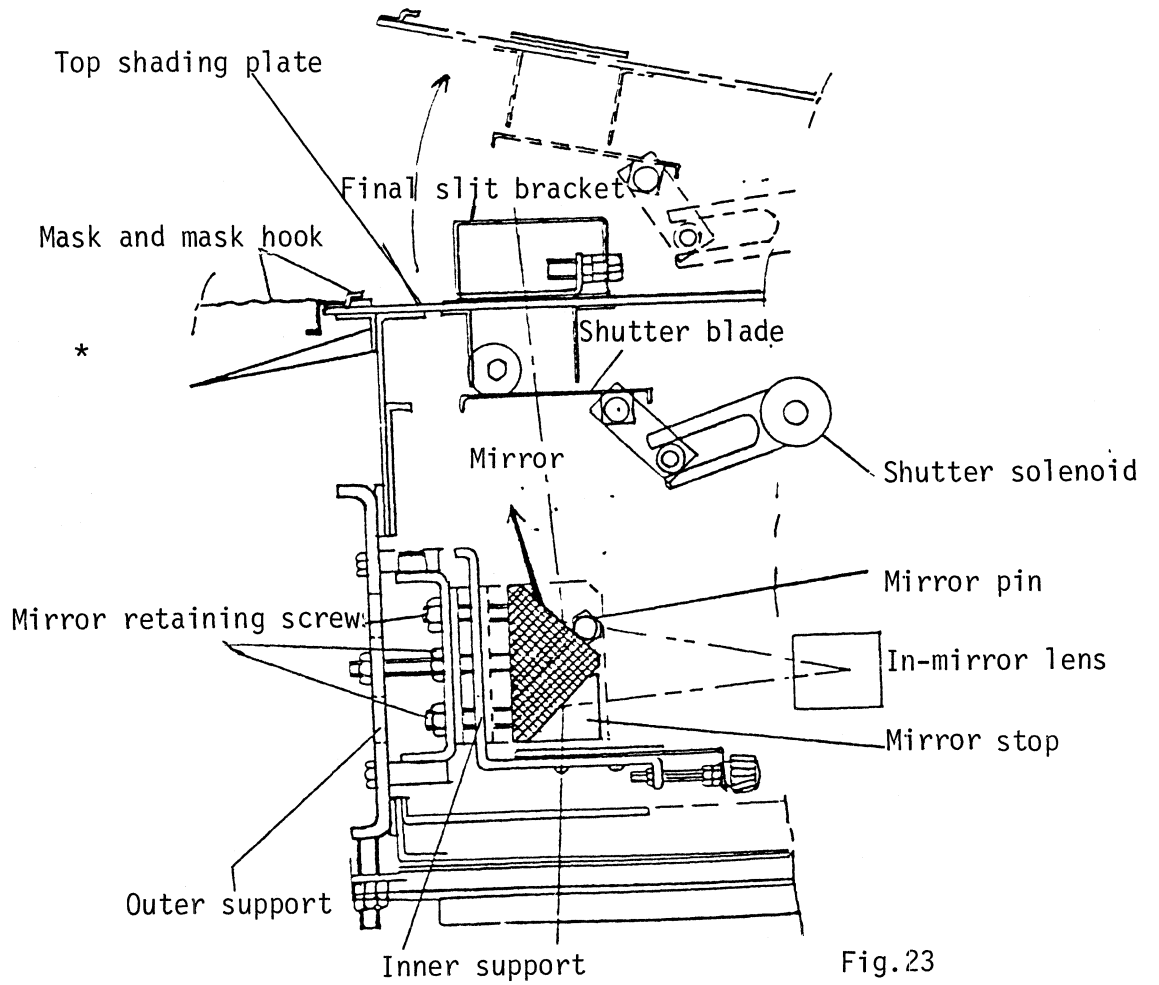

Fig.23
- (1) Open the main control panel cover and remove the shading plate in the front from the lens assembly.
- (2) Remove both the upper and middle rear covers.
- (3) Open the top cover, and hook the compression plate of the exposure section to the top cover.
- (4) Turn on the power (100 V, no-fuse breaker), move the lens assembly to the center with the LENS feed switch and unhook the mask from the right and left mask hooks. Then, turn off the power.
- (5) Make sure that the stopper of the top shading plate is completely in touch with the lens assembly (*). See Fig.23. Never neglect this step since it is important for reassembly.
[Removal of the Mirror] — See Figs.23, 24 and 25.